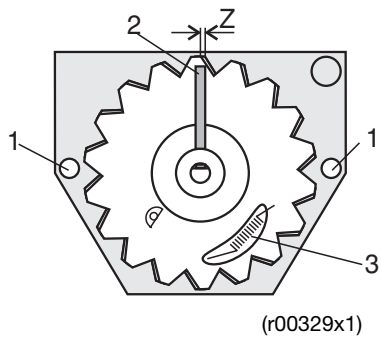

Fig. 11:Position sensor
- set the stop pin to the center position, as seen in Figure 11.